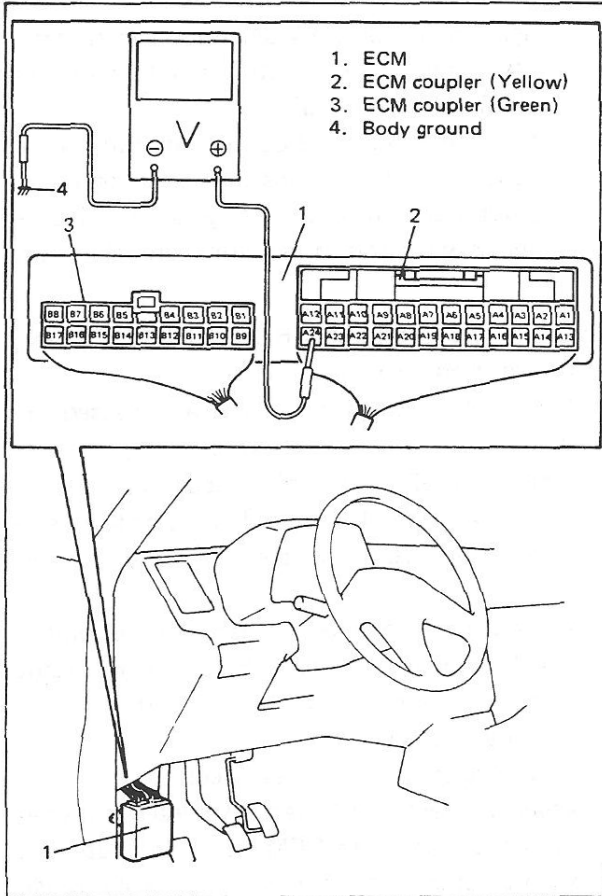

Fig. 6E-38 Checking Voltage and Terminal Position
- For ECM coupler terminal positions (A1, A2 ... to A24 and B1, B2 ... to B17), refer to Fig. 6E-38.